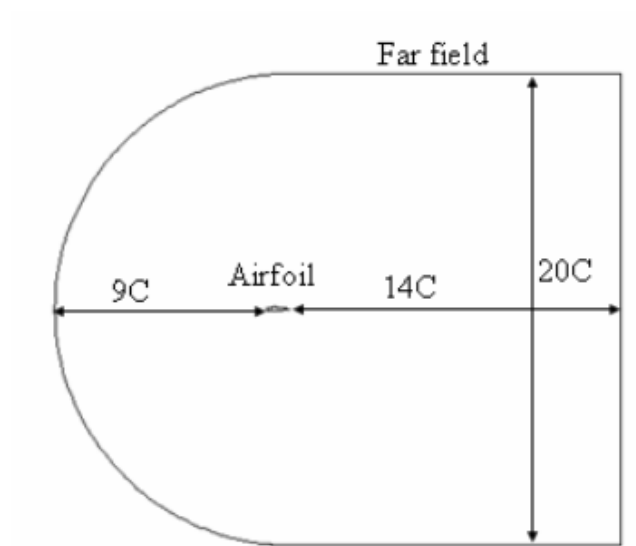

Figure 5.1: Problem Schematic
In this tutorial, we consider the flow around a NACA2415 airfoil (Figures 5.1 and 5.2) at an angle of attack $\alpha = 10^\circ$ and a free stream Mach number (M_∞) of 0.4066 and 0.8. The chord length (C) is 1 m.